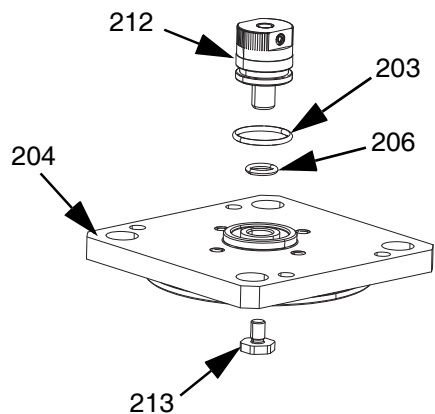
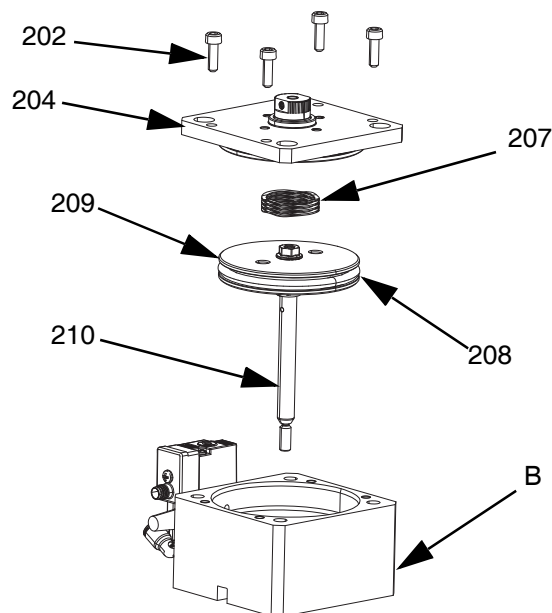

FIG. 11
FIG. 12
1. To assemble the air cylinder cap (204) on valves with ball-seat or tip seal assemblies:
- a. Install the o-ring (203) on the knob assembly (212). Place the o-ring (206) in the air cylinder cap (204). See FIG. 11.
- b. Grease the o-ring (203) on the knob assembly (212) and screw it into the air cylinder cap (204). See FIG. 11.
- c. Apply the supplied blue anaerobic adhesive to the adjuster stop threads (213) and screw it into the knob assembly (212). Torque to 11-13 in-lbs (1.25-1.5 N•m). See FIG. 11.
2. To assemble the Air Section (B):
- a. Replace the piston o-ring (208) if it is scratched, cut, or worn. See FIG. 12.
- b. Place the spring (207) on the top of the piston (209). See FIG. 12.
- c. Replace the air cylinder cap (204) and insert the screws (202). Press down on the air cylinder cap (204) to compress the spring (207). Torque to 30-36 in-lbs (3.4-4.1 N•m).